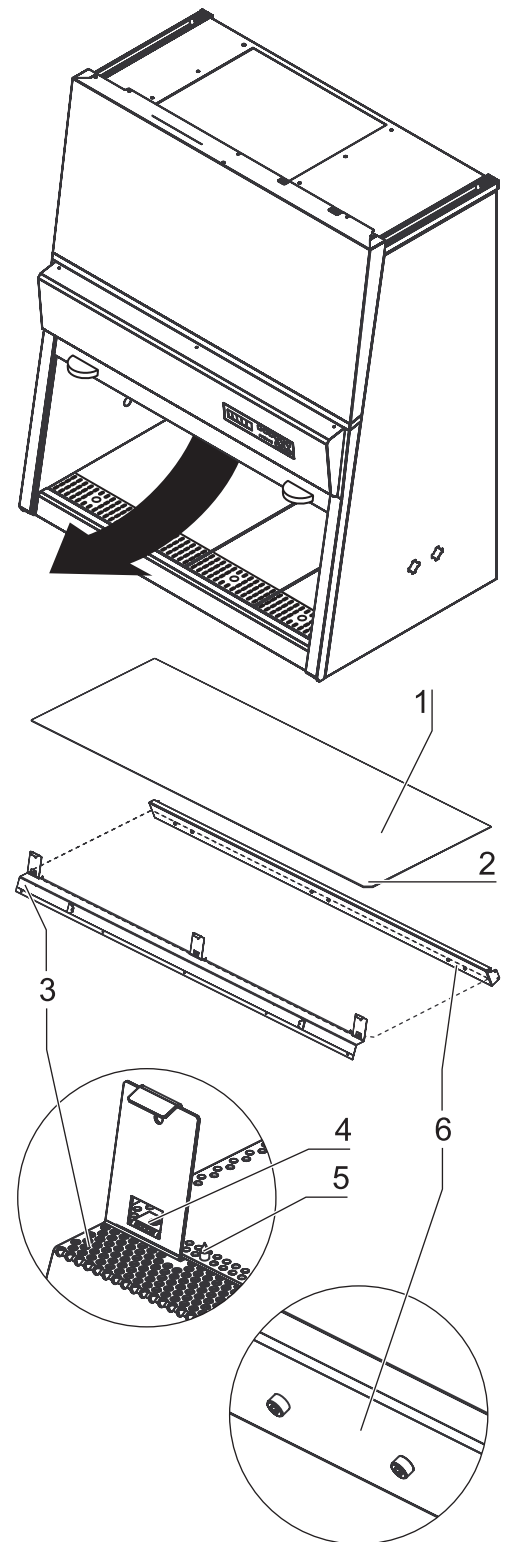

Fig. 11
Fig. 11: The perforated plate [1] protects the downflow filter at the sample chamber ceiling from damage and controls the downflow behavior of the air that flows from the downflow filter into the sample chamber.
2. **Fig. 11:** Remove the tapping screws [5] from the front edge of the perforated plate [1].